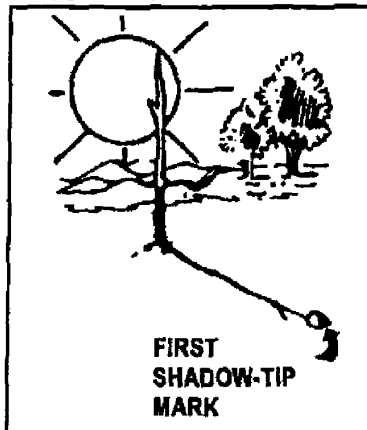

Figure C-40. First shadow-tip mark
- a. Place a stick or branch into the ground vertically at a fairly level spot where the sun will cast a distinct shadow. Mark the shadow with a stone, twig, or other means (figure C-40).